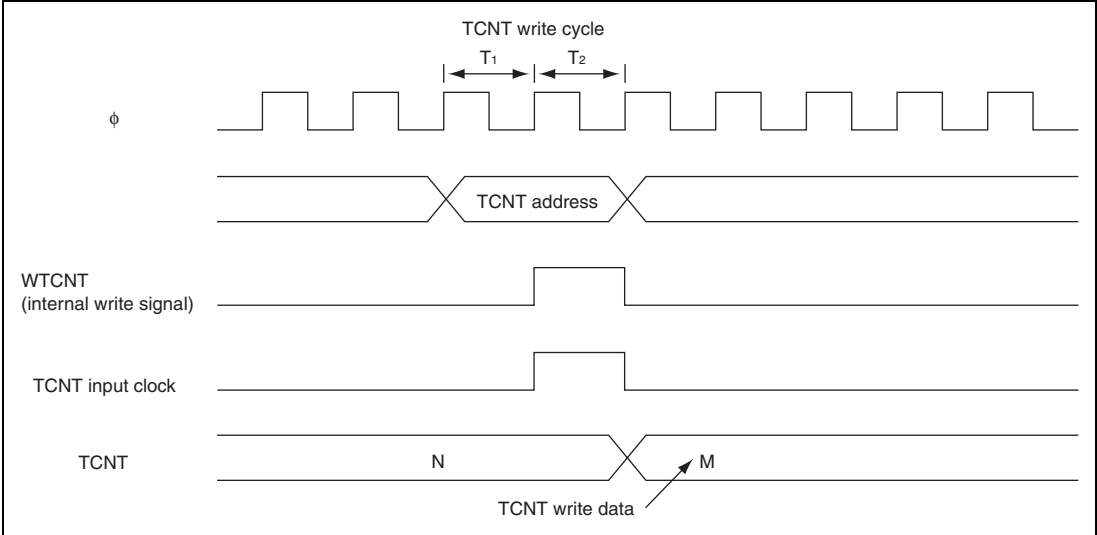

Figure 13.53 Contention between TCNT Write and Increment Operations
- 2. Contention between TCNT Write and Increment Operations: If incrementation is done in T_2 state of a TCNT write cycle, TCNT writing has priority. Figure 13.53 shows the timing in this case.